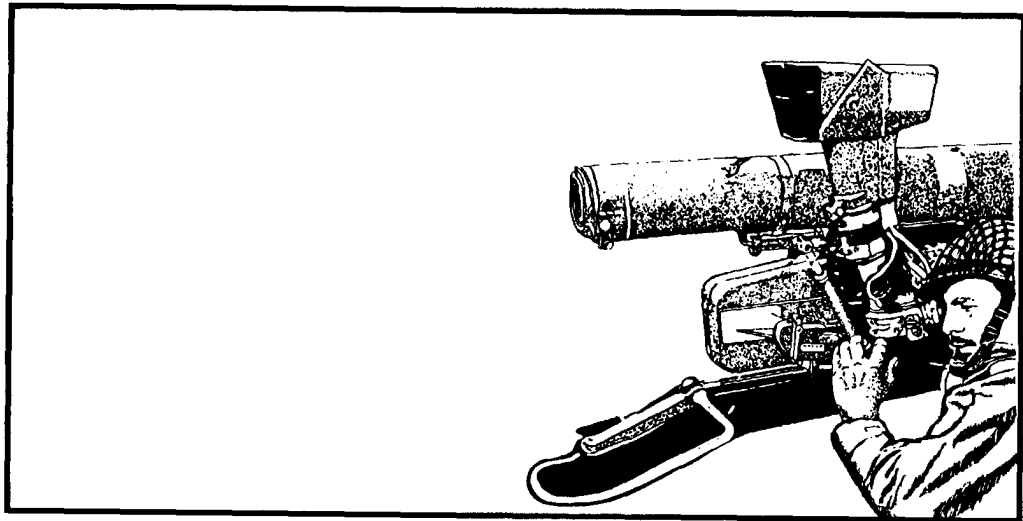

Figure F-7 AT-4 Spigot.
c. **AT-4 Spigot** (Figure F-7, page F-6).